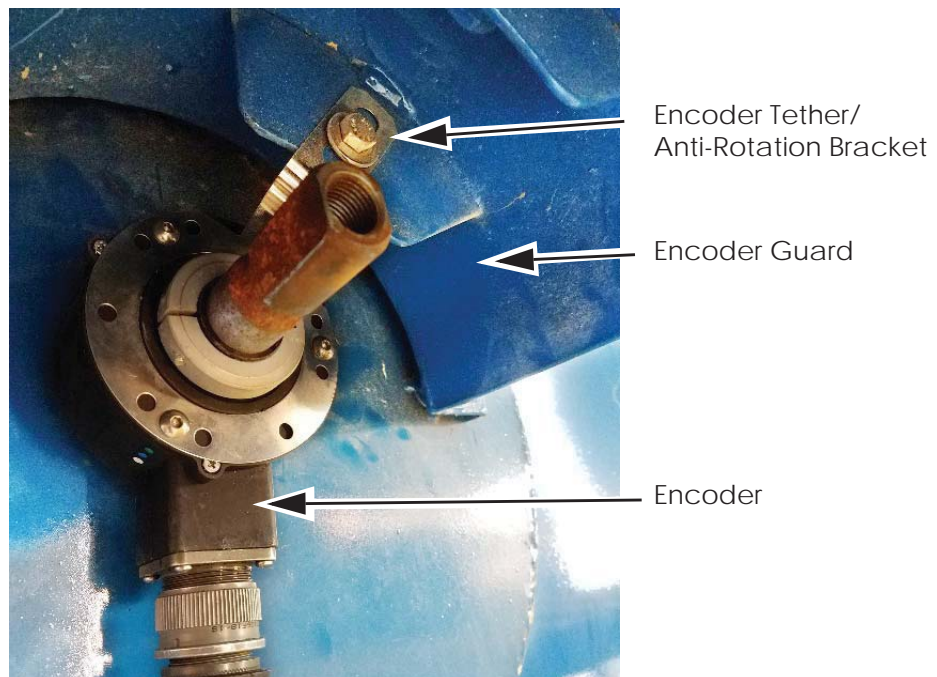

Figure 8: Encoder Bracket and Tether
4. Check the encoder tether. Verify that the tether and encoder are not twisted, loose, or broken. If the tether is loose, tighten the tether. If the tether is broken, replace the tether. See Figure 8.